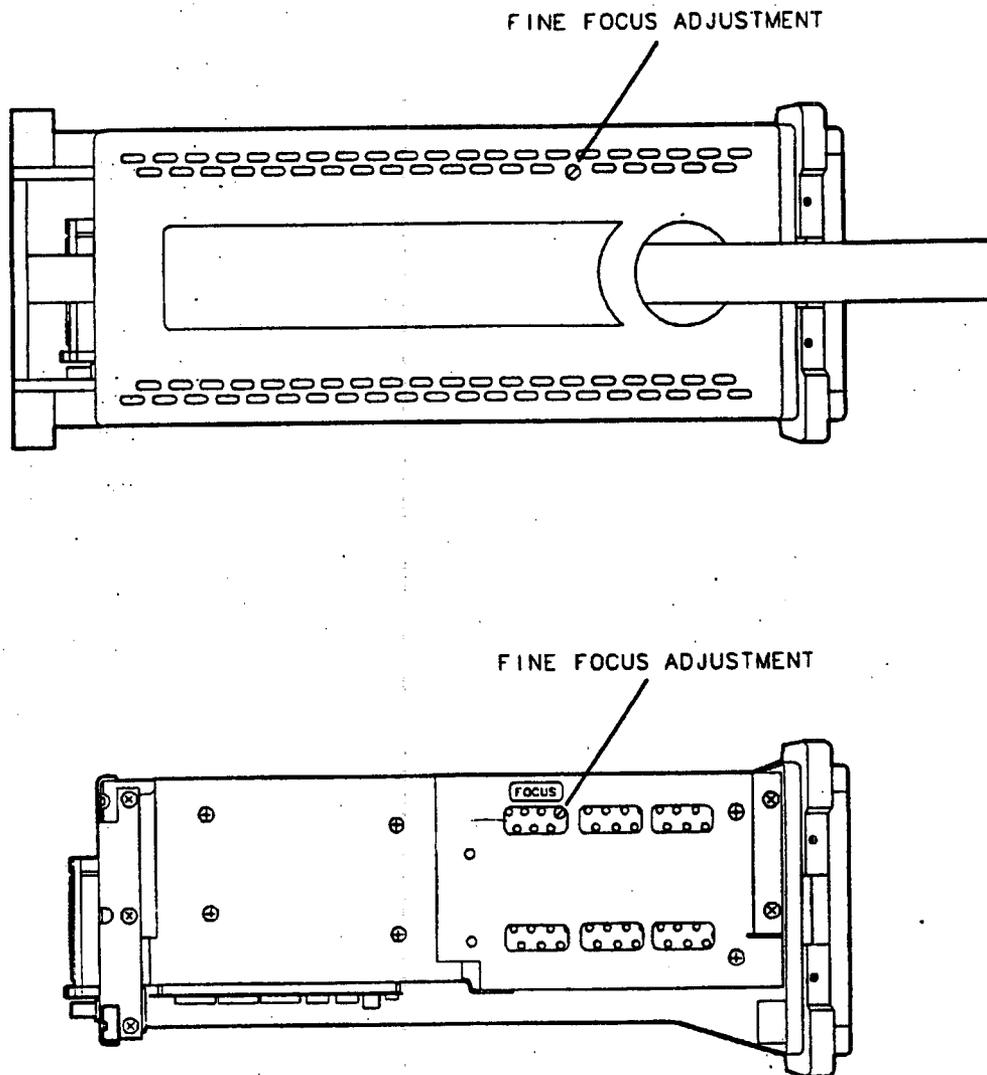

Figure 2-3. Fine Focus Adjustment Location
7. Use an adjustment tool to access the fine focus adjustment. See Figure 2-3. Adjust as necessary for a focused display. If one of the end-stops of the fine focus adjustment is reached, proceed with the "Coarse Focus Adjustment" section.
10. Center the fine focus adjustment. Refer to Figure 2-3 for the adjustment location.